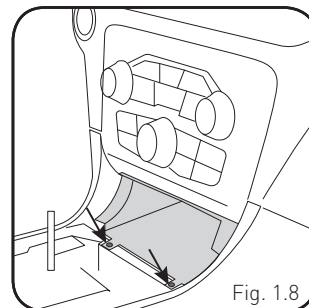

Fig. 1.8
9. Remove the two (2) 7mm screws securing the front storage compartment. Disconnect the power port wiring harness from the back. (Fig. 1.8)